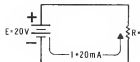

Figure 1-96
27. What is the resistance of the circuit shown in Figure 1-96?